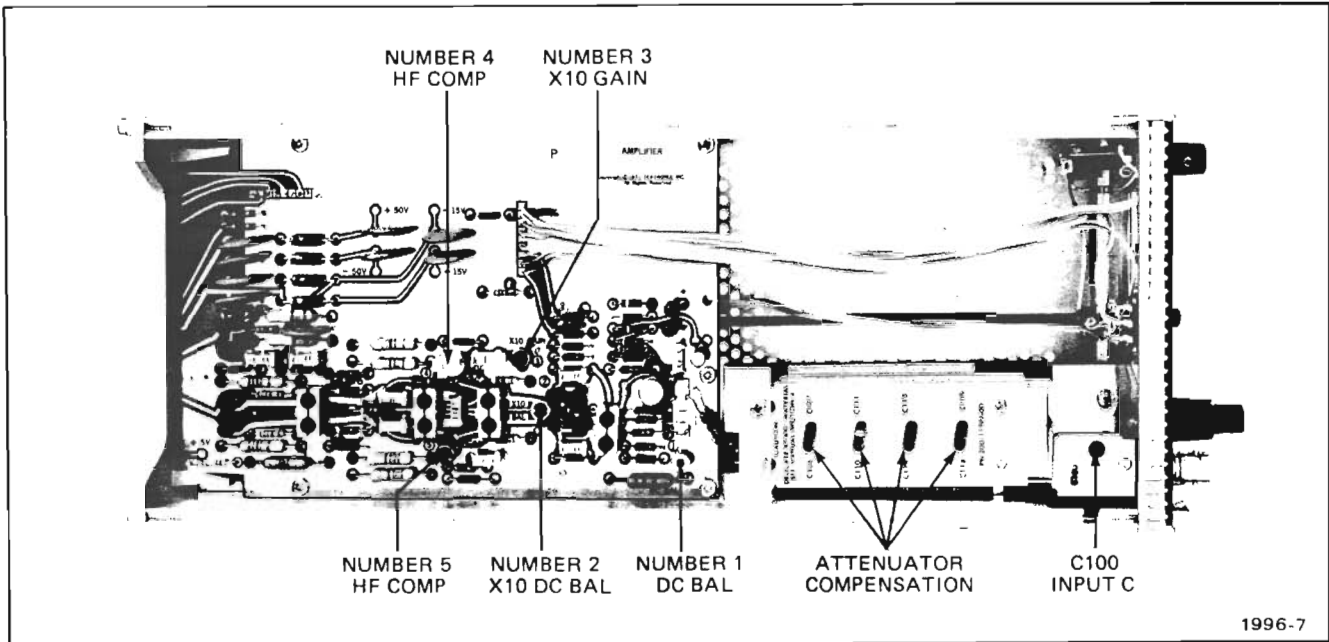

Fig. 5-1. Adjustment locations.
- c. Set X10 Gain adjustment (number 3, Fig. 5-1) for a vertical deflection within 10% of applied signal with VOLTS/DIV switch set to 10 mV.
The following procedure is arranged so that the Amplifier unit can be calibrated with the least interaction of adjustments and reconnection of equipment. The control settings and test equipment setup throughout this procedure continue from the preceding step(s) unless otherwise noted. Refer to Fig. 5-1 for location of adjustments.